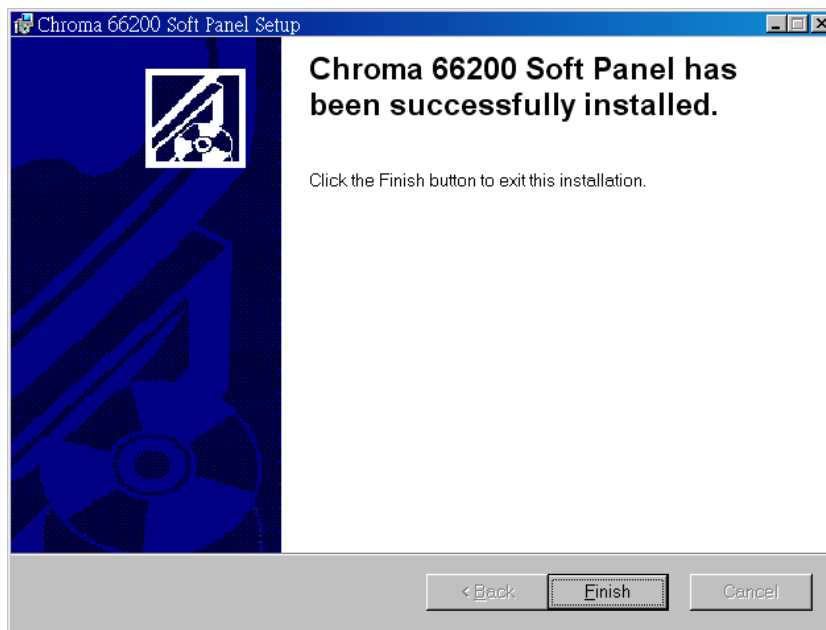

Figure 2-7 Installation Complete Screen
6. Figure 2-7 prompts once the installation is completed. Click **Finish** to end the program without reboot the PC.